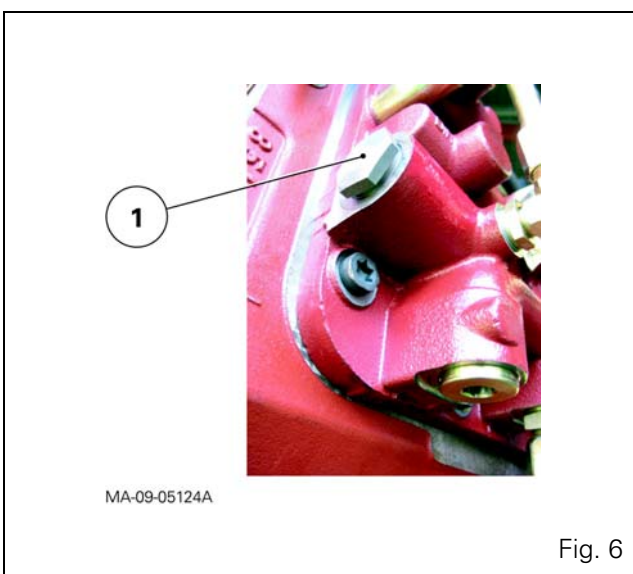

Fig. 6
Checking the lift control shock valve (1) (Fig. 6)